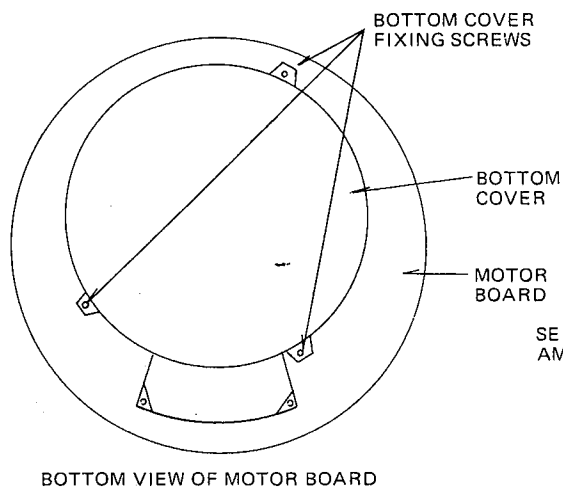

Fig. 5
1. Remove the three bottom cover fixing screws and take off the cover cap. (See figure 5)